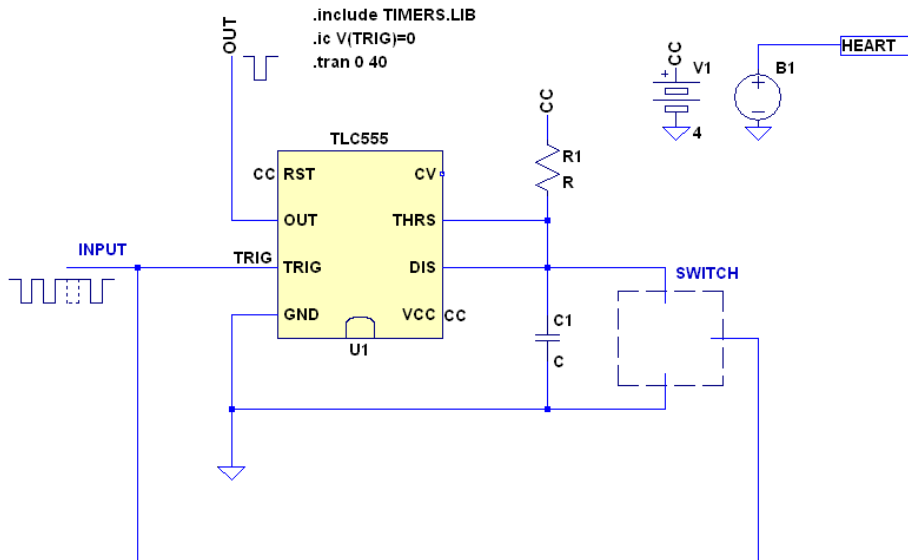

Figure 2.5: Circuit for LTSPICE Exp. 10.1: Missing Pulse Detector.
**Exp (LTSPICE 10.1). Missing pulse detector.** Figure 2.5 shows an incomplete circuit for a missing pulse detector. This circuit is found in `SPICE\experiments\10.1` directory. Copy its contents to your local directory. This basic circuit utilizes a 555 timer in a one-shot configuration. Used as is, this circuit will generate pulses of a given duration (triggered by a negative edge on the input) as determined by  $R1$  and  $C1$  values (left unspecified in the circuit). A falling edge of the input signal, when its level drops below  $V(CC)/3$ , produces  $S = 1$  logical signal on the internal RS latch. As a result,  $OUT = 1$  logic, the internal transistor switch is OFF leaving DIS pin essentially disconnected (floating), and  $C1$  capacitor is charging up through  $R1$  resistor. Refer to the 555 timer internal schematic found in the Lab Manual. Any subsequent falling edge pulses at the input will not have any effect on the internal latch, and therefore on  $OUT$  and  $DIS$  pins, until the THRS voltage becomes larger than  $2V(CC)/3$  generating  $R = 1$  digital level on the RS latch (LTSPICE symbol for 555 timer uses THRS for the same input designated in the Lab Manual as  $2/3$  COMP). This puts the internal transistor switch in ON state, discharging the capacitor  $C1$ .  $OUT$  becomes logic 0, and the RS latch is again sensitive to the falling edge of TRIG input.
A missing pulse detector essentially acts as a retriggerable one-shot. With each subsequent pulse arriving within the duration specified by  $R1$  and  $C1$  values, the capacitor  $C1$  is discharged through the addition of an external switch (shown as a dashed box in Figure 2.5). While the internal transistor switch remains OFF, the external switch should be ON each time TRIG input goes low. This prevents the